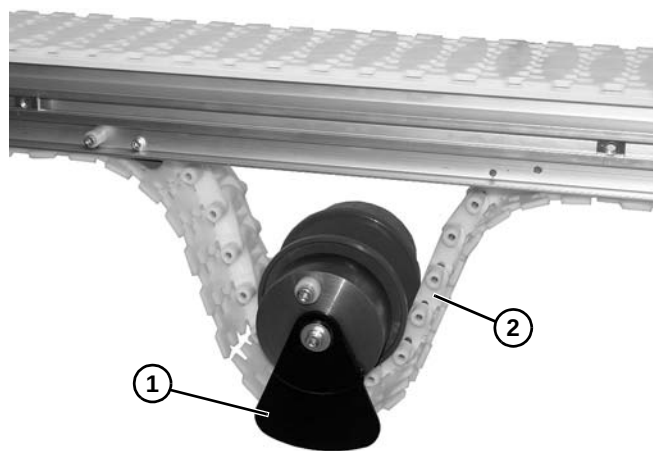

Figure 24
1. Install idler pulley assembly (**Figure 24, item 1**) onto belt (**Figure 24, item 2**).